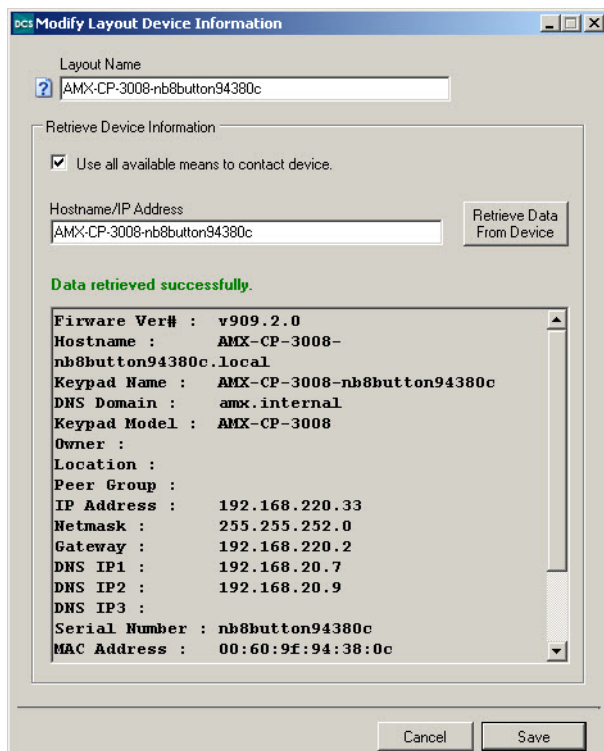

FIG. 36 Modify Layout Device Information window
2. In the Device Layout tree, right-click the ControlPad you want to modify. The Modify Device Layout Information window opens (FIG. 36).